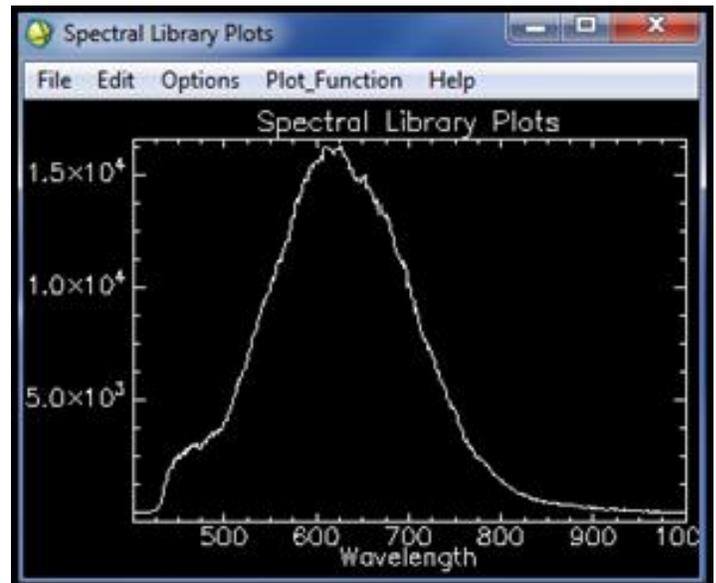

Figure 5.2h. Plot containing the spectrum of the endmember
- Then select Spectral Library Viewer. This now shows the plot for the Endmember(s), in this case we only have one (Figure 5.2h).